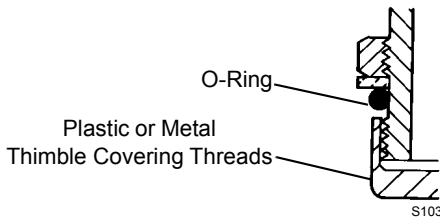

FIGURE 2-8
- Be careful not to cut O-rings when assembling them to fittings. Use thimble as shown in Figure 2-8 when assembling O-ring over threads.